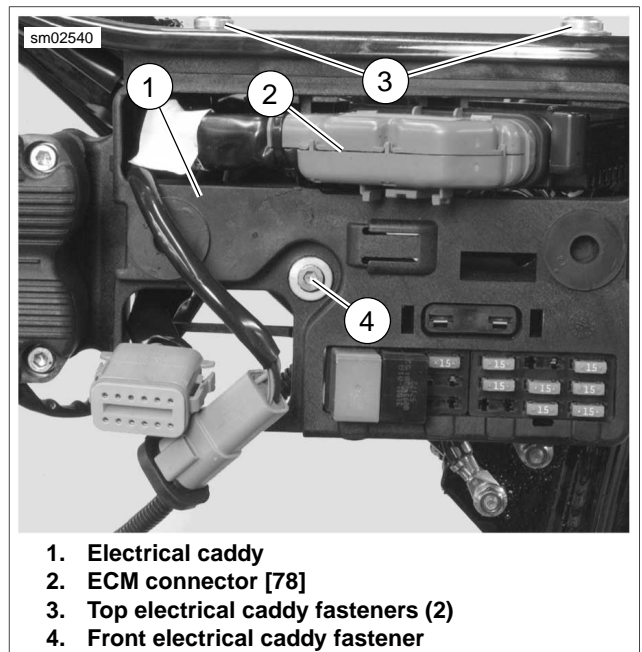

Figure 8-4. Electrical Caddy Fasteners
8. See Figure 8-4. Disconnect electronic control module (ECM) connector (2) [78].
11. Remove front electrical caddy fastener (4).
12. Remove top electrical caddy fasteners (3).
6. See Figure 8-4. Install but do not tighten electrical caddy front fastener (4).
7. Install electrical caddy top fasteners (3). Tighten to 90-110 **in-lbs** (10.2-12.4 Nm).